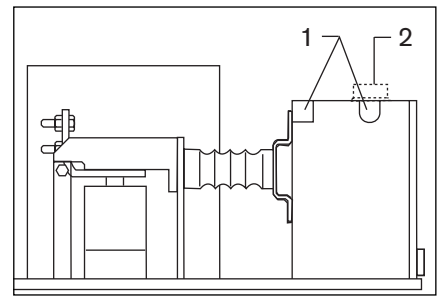

Fig. 10
2. Connect external control lines via the terminal strip and route them to the outside through the cutouts in the drive casing (Fig. 10).